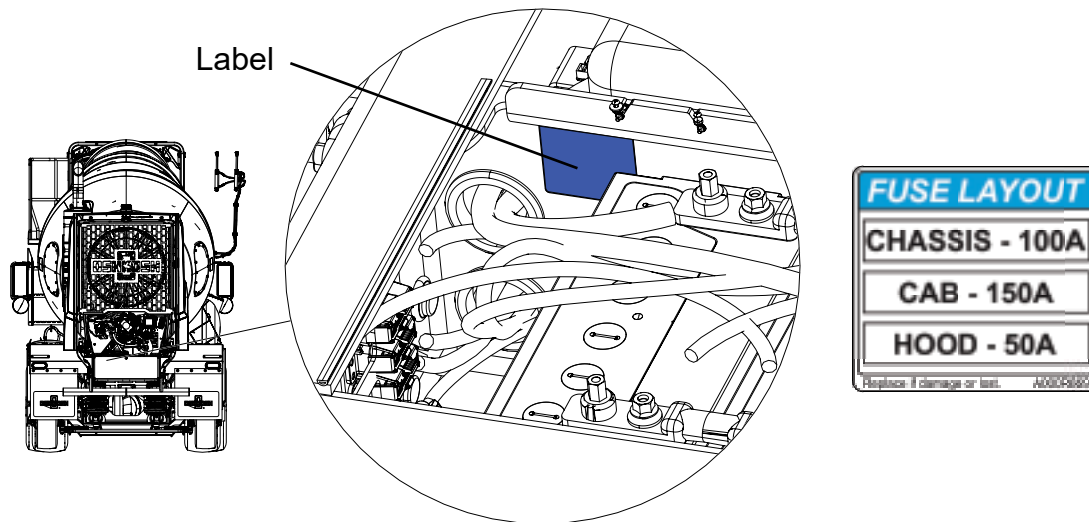

Figure 5 - Battery Box Fuse Identification Label Location
24. Install new fuse information label (P/N A000R669) in location shown in Figure 5.